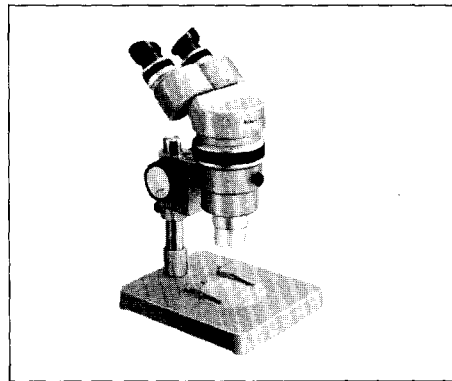

Fig. 21
1. Binocular eyepiece tube (Fig. 21)